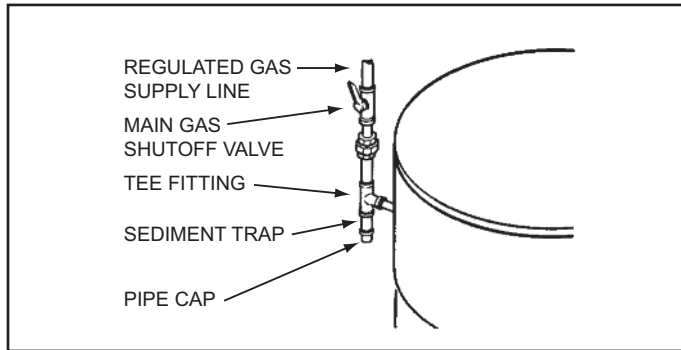

Figure 51. Supply Gas Line Installation
Ensure all gas pipe is clean on the inside before installation. To trap any dirt or foreign material in the gas supply line a sediment trap must be installed as shown in **Figure 51**. The sediment trap must be readily accessible and not subject to freezing conditions. Install in accordance with the recommendations of the local gas utility company.
7. Install a sediment trap as shown in **Figure 51** (page 38).
8. Install a Main Gas Shutoff valve in the supply gas line as shown in **Figure 51** (page 38).
1. For test pressures exceeding 1/2 psi (3.45 kPa) disconnect the water heater and its Main Gas Shutoff Valve from the gas supply piping system during testing. See **Figure 51** (page 38). The gas supply line must be capped when disconnected from the water heater.